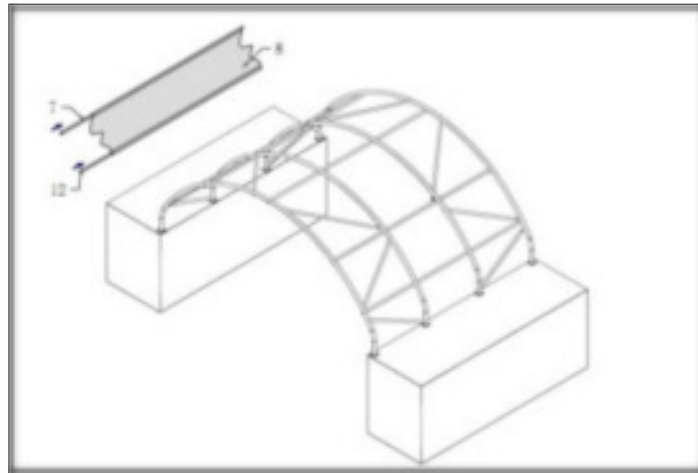

Figure 5
1. Insert the Lower tensioning tube for roof cover (part code 7) into the pockets on the end of the roof cover (part code 8). Then put the ϕ32 Plastic plug for base rail section (part code 12). (Refer to figure 5)